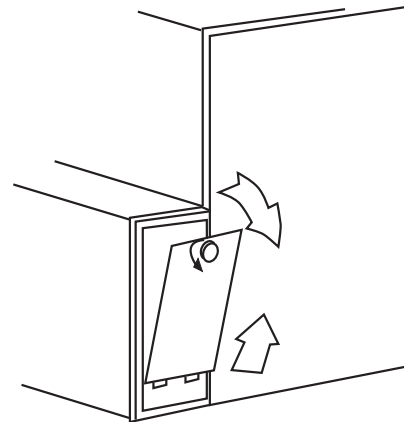

Fig. 21 - Removing Side Filter Cabinet Door
- Remove filter cabinet door. (See Fig. 21 and 22.)